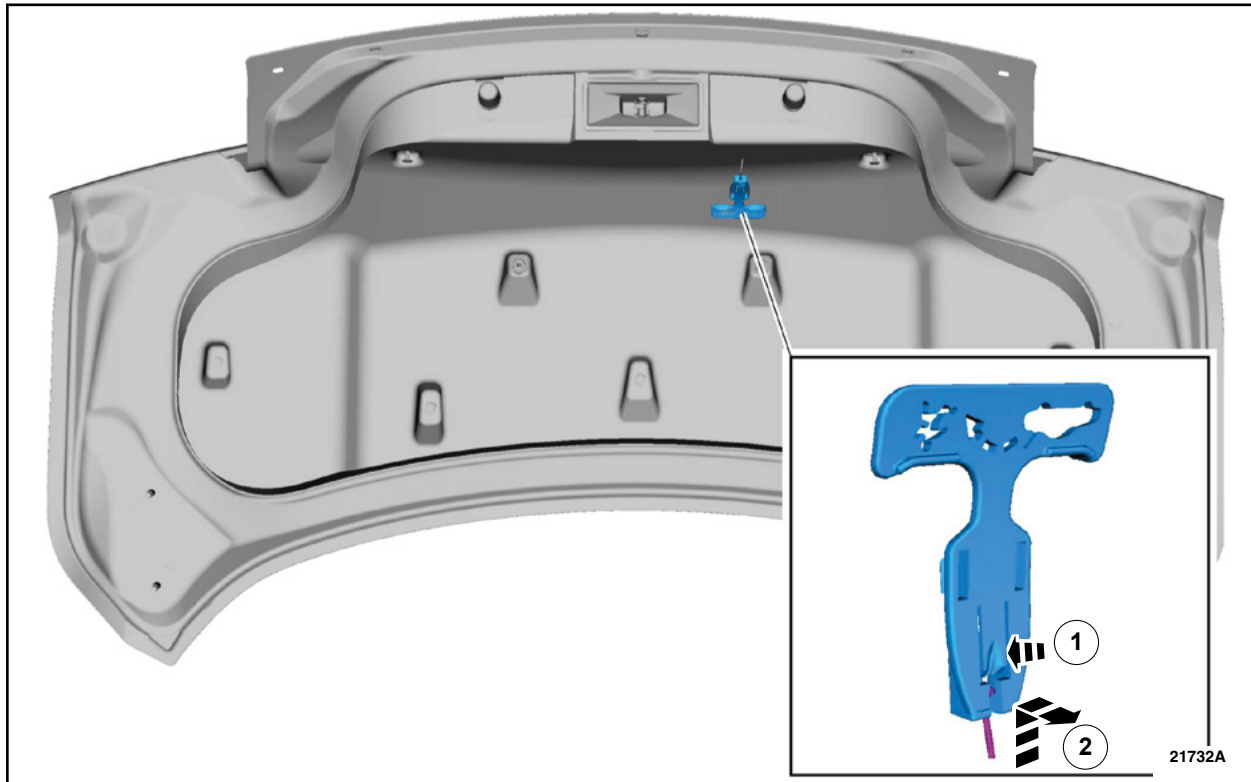

FIGURE 28
40. Remove the luggage compartment lid emergency release handle. See Figure 28.